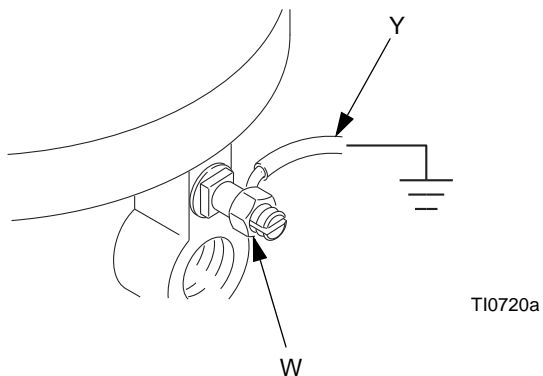

FIG. 1. Ground Wire
Pump: use a ground wire and clamp (Y). See FIG. 1. Loosen the grounding lug locknut (W) and washer. Insert one end of the ground wire into the slot in the lug and tighten the locknut securely. Connect the ground clamp to a true earth ground. Order Part No. 237569, Ground Wire and Clamp.